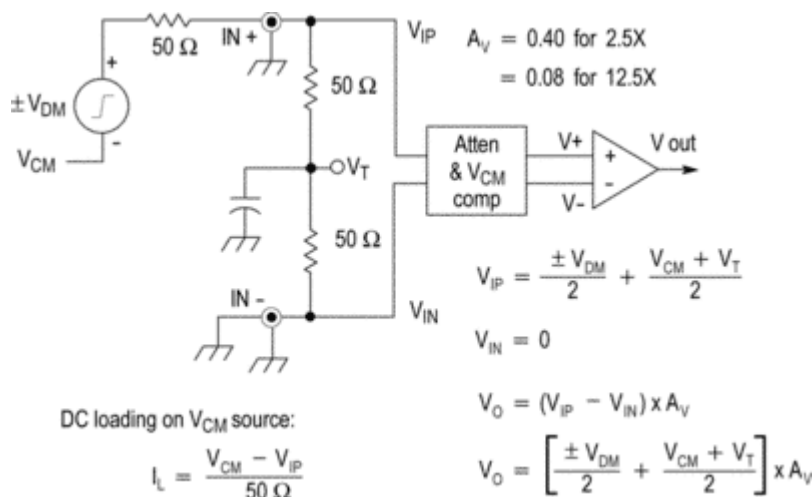

Figure 10: Shorting termination on (-) input
**Shorting Termination on (-) Input.** An alternative single-ended measurement topology with a shorting termination on the (-) input is shown. (See Figure 10.) The general equations describing the response and loading of this topology are also shown. The equations for this topology show identical loading of the signal source when compared to the 50 Ω termination topology. This is because the termination voltage,  $V_T$ , effectively isolates input signal loading from the termination on the probe negative input.